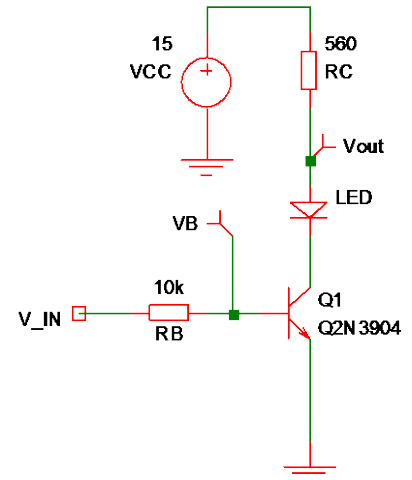

Fig. 1: LED driver using a 2N3904 transistor.
- Step 1a: Build the LED driver shown in Fig. 1.
- Use CH1 of the scope to measure the voltage just above the LED ("Vout" in Fig. 1).
- Use CH2 of the scope to measure the base voltage of the transistor ("VB" in Fig. 1).